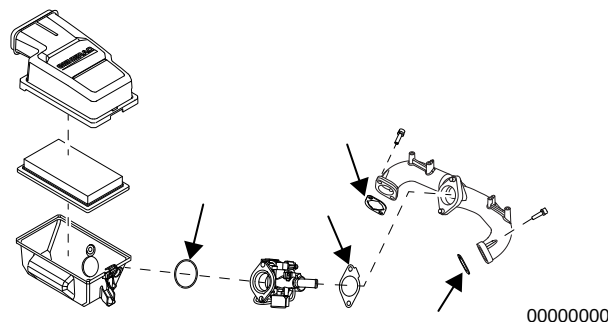

Figure 10-36. Air Intake System Gaskets
3. See Figure 10-36. Check the gaskets for the air intake system for leaks or tears.